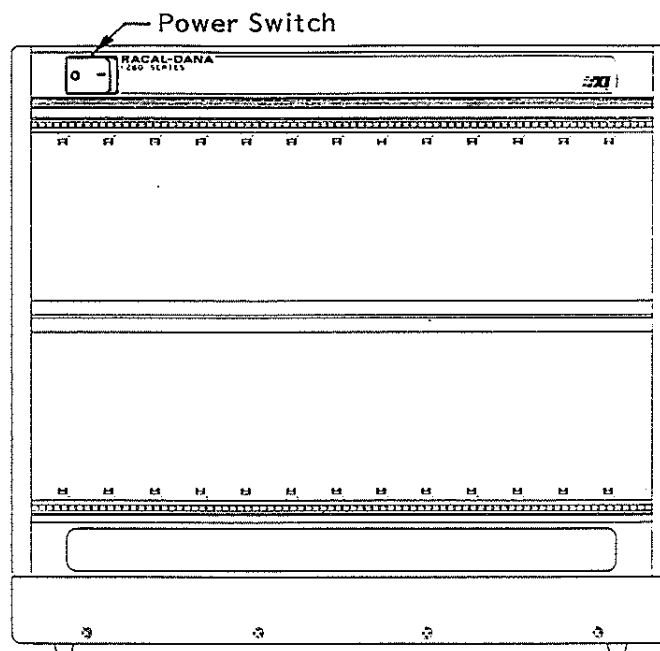

Figure 3-1, 1261A Front View
- 3.3.1 To apply power to the chassis and VXibus modules installed, depress the side of the AC line switch marked "1". The front panel and line switch are shown in Figure 3-1.